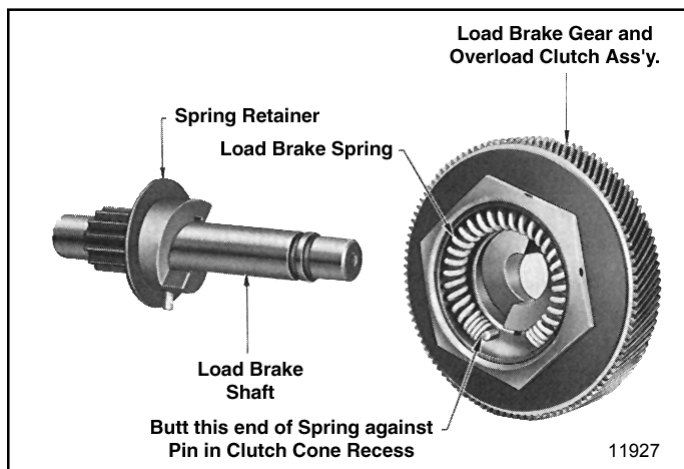

Figure 7-21. Load Brake Gear and Overload Clutch Assembly Removed from Load Brake Shaft Showing Brake Spring Installed in Clutch Cone
- (3) Remove load brake gear and overload clutch assembly from output pinion shaft. Pull the spring from its recess in clutch cone (Figure 7-21) but do not further disassemble gear and clutch assembly. See "Note" below.
Note: Disassembly of the load brake gear and overload clutch assembly (Figure 7-21) is not recommended. Clutch pressure is preset by the factory at assembly to provide the correct torque to allow the clutch to refuse loads within a specified range (110% of rated load to 180% rated load). It is suggested whenever there is a need to repair or readjust the gear and clutch assembly that it be sent to an authorized **BUDGIT** Hoist Repair Station where adequate tools, fixtures and appropriate test equipment is available.
- (1) Before assembly, all parts should be cleaned and inspected to determine their serviceability. Replace parts that are excessively worn or damaged.
- (2) Reassemble load brake parts following a reverse procedure of the disassembly steps listed above, observing the assembly steps (3) through (6) below.
- (3) Before installing spring in its recess in center of clutch cone (Figure 7-21) apply a good grade of ball bearing grease to inside of recess. Spring must be positioned exactly as illustrated, butted against pin.